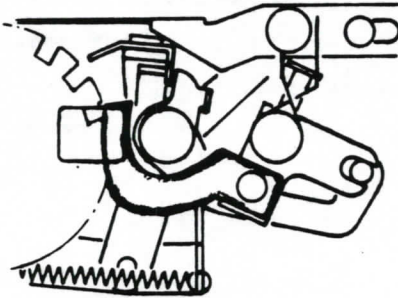

Fig. 145
2) Release lever comes off from Counter dividing device and Red signal appears as shown in Fig. 145.